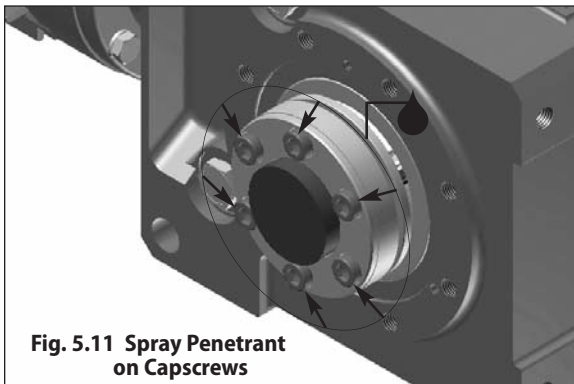

Fig. 5.11 Spray Penetrant on Capscrews
**Step 4** – Spray a liquid penetrant onto each of the Taper-Grip® Bushing capscrews. Allow time for the penetrant to settle into the threads of the capscrews. (see Fig 5.11).